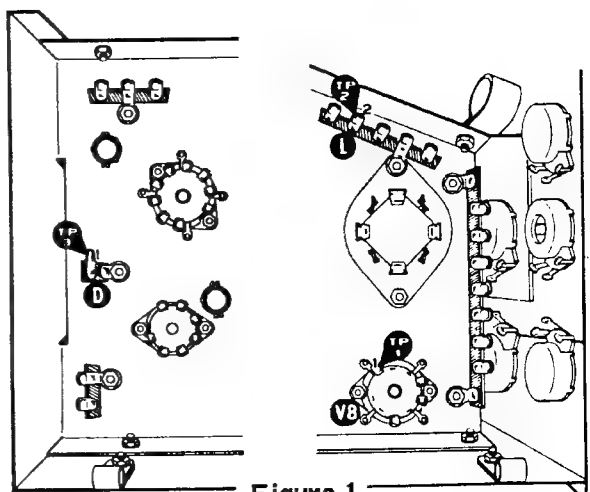

Figure 1
Refer to Figure 1 for the following steps.
- ( ) Referring to Figure 1, connect the voltmeter test leads to read negative (-) voltage from TP-3 (lug 1 of terminal strip D) to chassis.